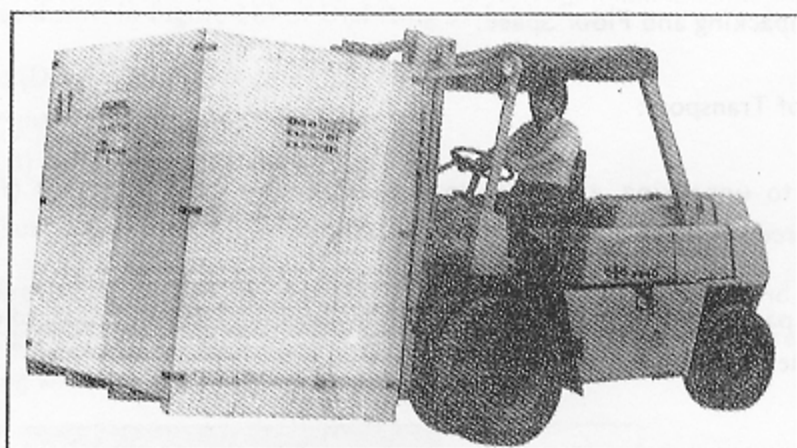
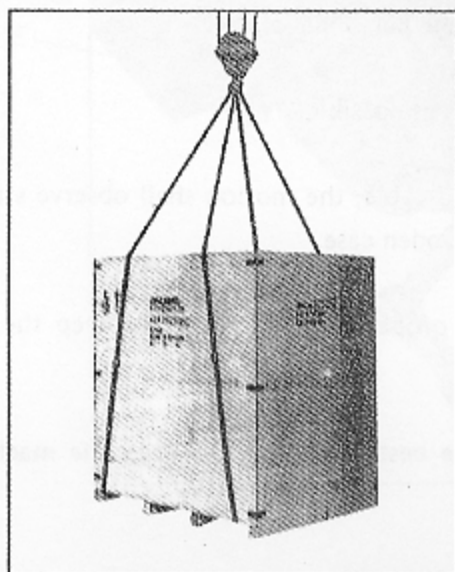

Figure 18
Figure 19
- (1) Prior to unpacking, transport may be made by using a forklift (Figure 18) and a reinforced cable (Figure 19).